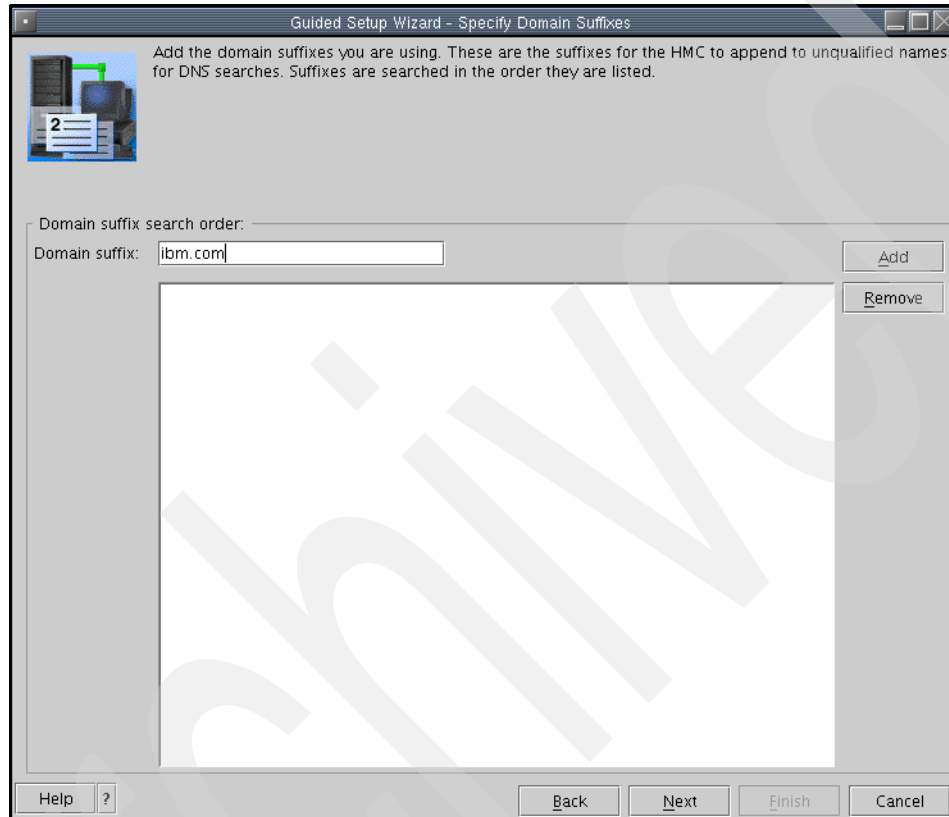

Figure 4-13 Guided Setup wizard - Specify Domain Suffixes
13. Now the Guided Setup - Specify Domain Suffixes panel is shown (see Figure 4-13).